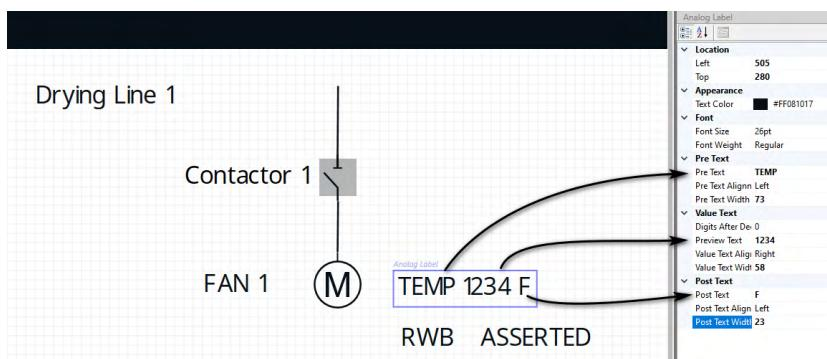

Figure 8.79 Edit Analog Label Properties
- Step 5. Name the analog label by modifying the Pre Text value. Value Text is the displayed measurement. Place the maximum number of characters you want to display in Preview Text. Enter the units in Post Text (see *Figure 8.79*).